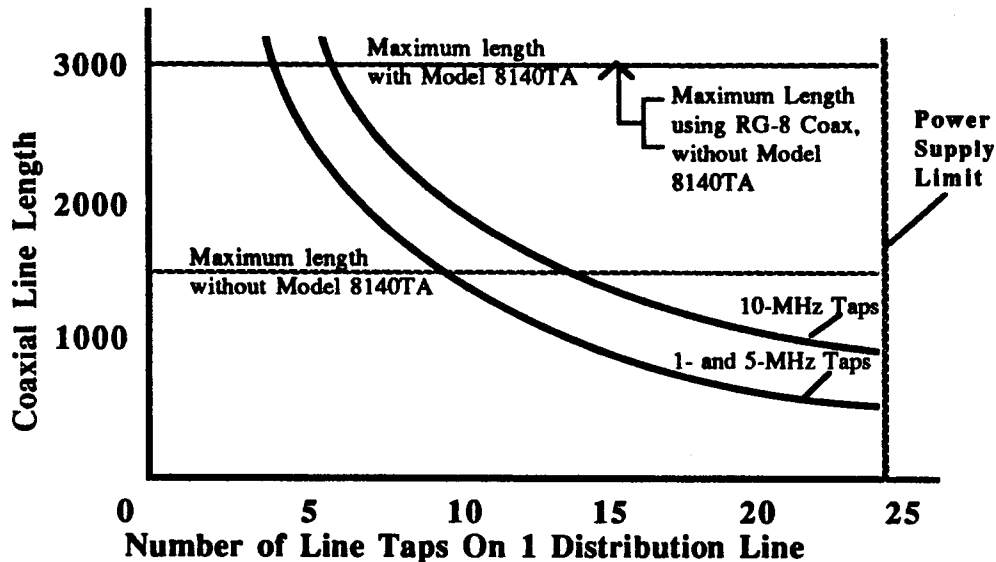

FIGURE 5-4 LINE TAP NUMBER AND DISTANCE CHART - OPTION 03
2. Using RG-58 cable, 1500 feet (457 m) is the longest trunk line that may be used. Using RG-8 cable, 3000 feet (914 m) is the longest trunk line permitted. Figure 5-4, "Line Tap Number & Distance Chart", may be used to calculate the number of line taps that may be used at various distances from the base station.